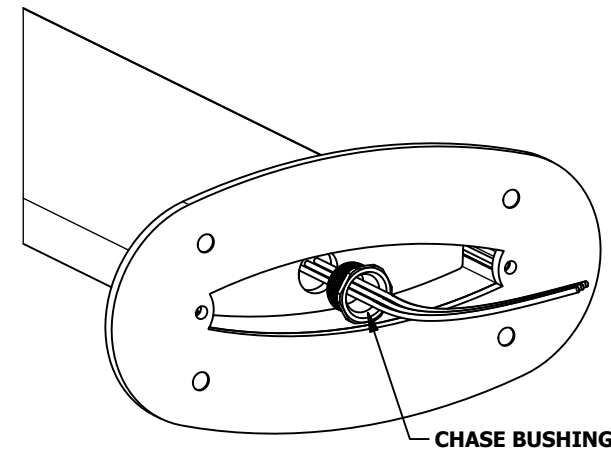
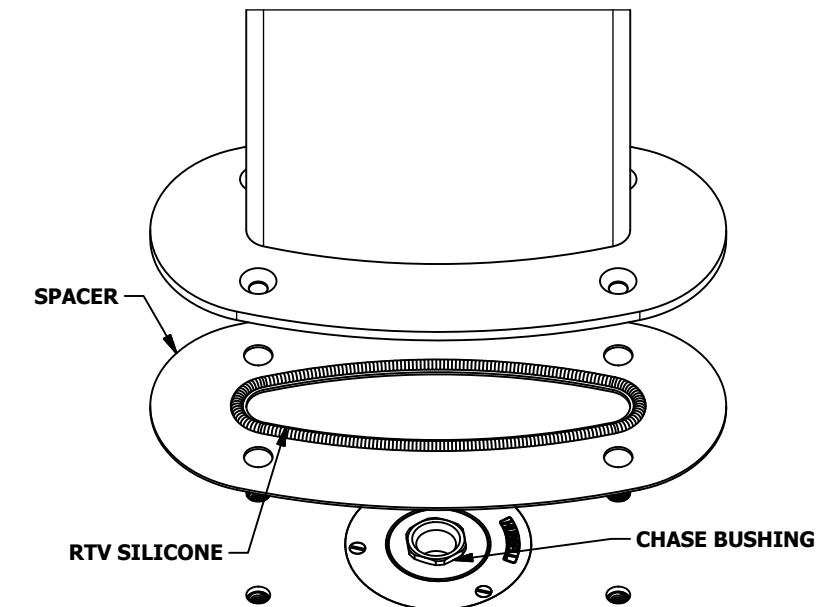

FIGURE 3
FIGURE 4
1) Use provided template to drill (4) holes for concrete anchors with the floor box at the center of the pattern. (Concrete anchors shall be for 3/8" UNC screws, refer to manufacturer instructions for hole size and depth)
2) Secure 2 user supplied 3/4" chase bushings (RACO Catalog No: 1663 or similar) to the base of the pedestal (**Figure 3**) and to the opening in the floor box. (**Figure 4**)
Make appropriate connections in the floor box to wire the unit (**Figure 4**).
4) Apply a 1/4" thick bead of electrical grade RTV silicone on both sides of the spacer to ensure water tightness of the assembly. (**Figure 4**)
5) With the spacer in place, secure the unit to the floor with provided (4) screws and torque to 25 lbs.in.